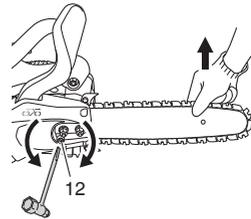

Fig. 7
7. Raise the guide bar end, and tighten the chain (9) by turning the tension adjustment bolt (12) clockwise. To check proper tension, lightly lift up the center of chain and there should be about 0 – 0.5 mm clearance between guide bar (6) and edge of drive link (13). (Fig. 7, 8)